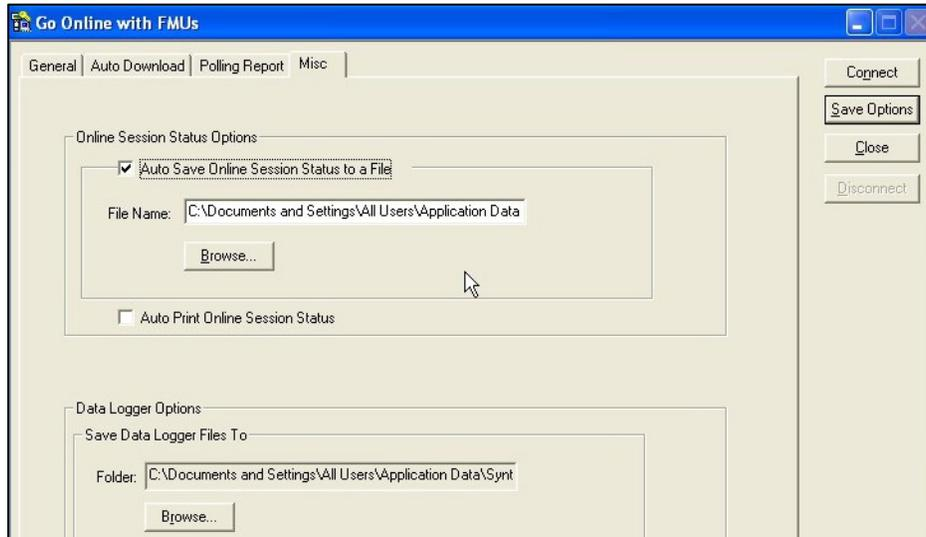

Figure 4 Go Online with FMUs > Misc.
1. Select **Main menu > Online icon**. A Go Online with FMUs window will open. Select the **Misc.** tab (Figure 4).
8. Select **OK**. The window will close. Permission has been set. When the FMU is downloaded and the option to download Data Logger files has been turned on, a text file is sent to the folder location identified in Figure 4.